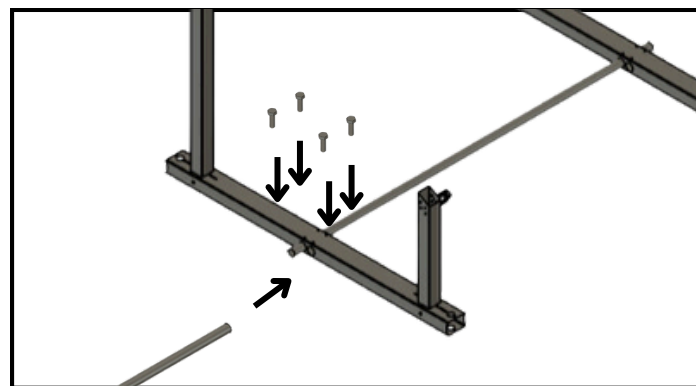

Figure 6
Slide the next Frame along the conduit pipe and space them roughly where they will need to be according to your solar module's width (make sure the conduit pipe goes through the same opening on each Frame). Once the end of the first conduit pipe is reached, insert the next conduit pipe through the other opening on the last Frame (See Figure 6). Repeat this until all Frames are connect by the conduit pipes and are spaced roughly to your solar module's width.
Once all Frames are in place, start bolting the frames directly to the conduit pipe. Use a tape measure to confirm distance between frames is correct before bolting each one to the conduit pipe. Each Frame will require (2) M8-1.25 x 16mm Thread Cutting Bolts to lock it in place on the conduit pipe. Frames connected to two conduit pipes will require all (4) M8-1.25 x 16mm Thread Cutting Bolts (See Figure 6).